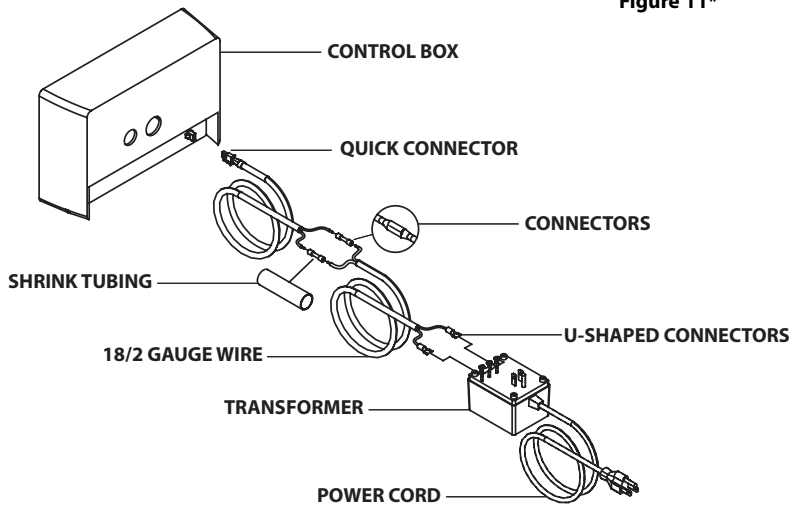

Figure 11\*
- Attach the U-shaped connectors to the 18/2 gauge wire with a crimping tool (see Figure 11). If the 18/2 gauge wire is too short, use the connectors and shrink tubing to lengthen the wire (see Figure 11).
- Connect the 18/2 gauge wire to the transformer (see Figure 11). Insert the other end of the 18/2 gauge wire (with the connector) into the back of the filter control box (see Figure 11).